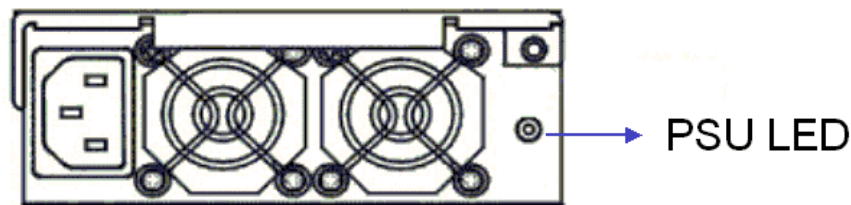

Figure 3-6: PSU Module Rear LED
The PSU module has one (1) LED located just above the power switch and just below the retention screw to indicate the operational status of the PSU module. (See *Figure 3-6*) Please refer to *Table 3-7* for PSU LED definitions.